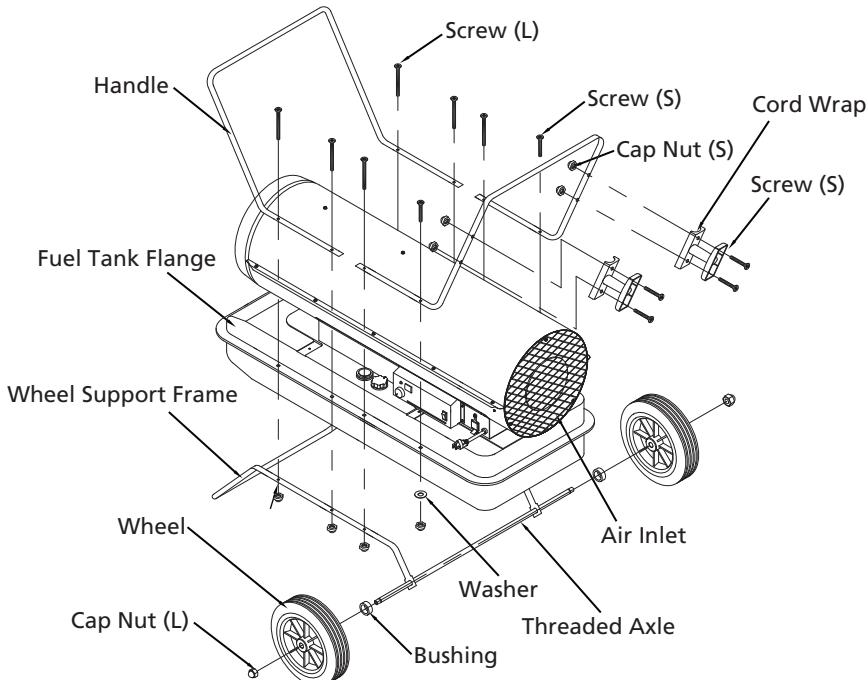

Figure 5 – Wheel and Handle Assembly
3. Place heater on wheel support frame. Make sure air inlet end (rear) of heater is over wheels. Align the holes on fuel tank flange. Insert screws(L) through handles (front and Rear), fuel tank flange, and wheel support frame. Insert screws(S) through rear handle, fuel tank flange, and washer(S) as shown in figure 5 and attach nut finger tight after each screw is inserted.
6. Insert screws through cord wrap, rear handle as shown in Figure 5 and attach nut finger tight after each screw is inserted.